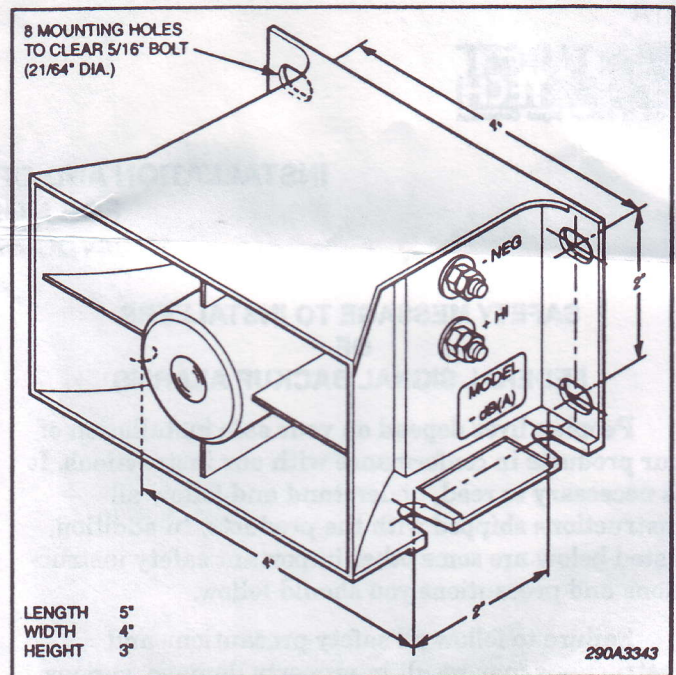

Figure 1.
2. See figure 1. Using the alarm's housing as a template, scribe two drill position marks through the holes in the mounting flanges (one on each side of the housing). Drill 21/64" holes at the position marks.